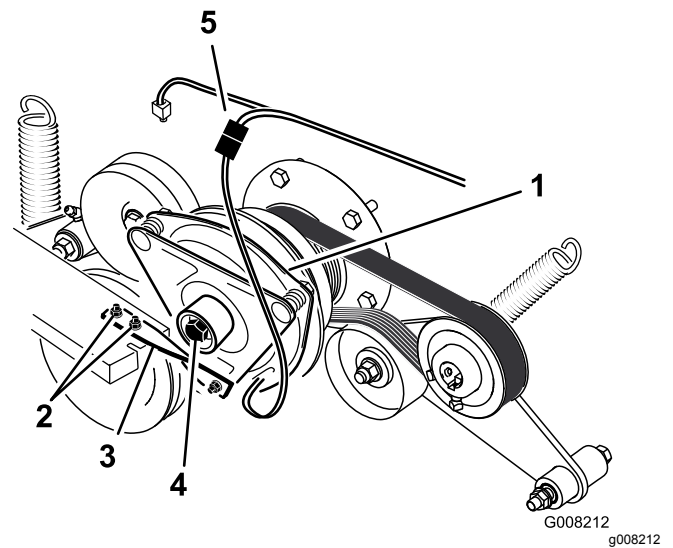

Figure 55
6. Unplug the electric connection for the clutch (Figure 55).
7. Remove the bolts holding the rubber clutch strap to the mower frame (Figure 55).
8. Remove the center bolt holding the clutch to the engine shaft and remove the clutch and key (Figure 55).
15. While holding the crank shaft at the back of the machine, install the center bolt and torque it to 68 N·m (50 ft-lb) (Figure 55).
16. Install the rubber clutch strap to the mower frame with the 2 previously removed bolts and nuts (Figure 55).
18. Plug in the electric connection for the clutch (Figure 55).